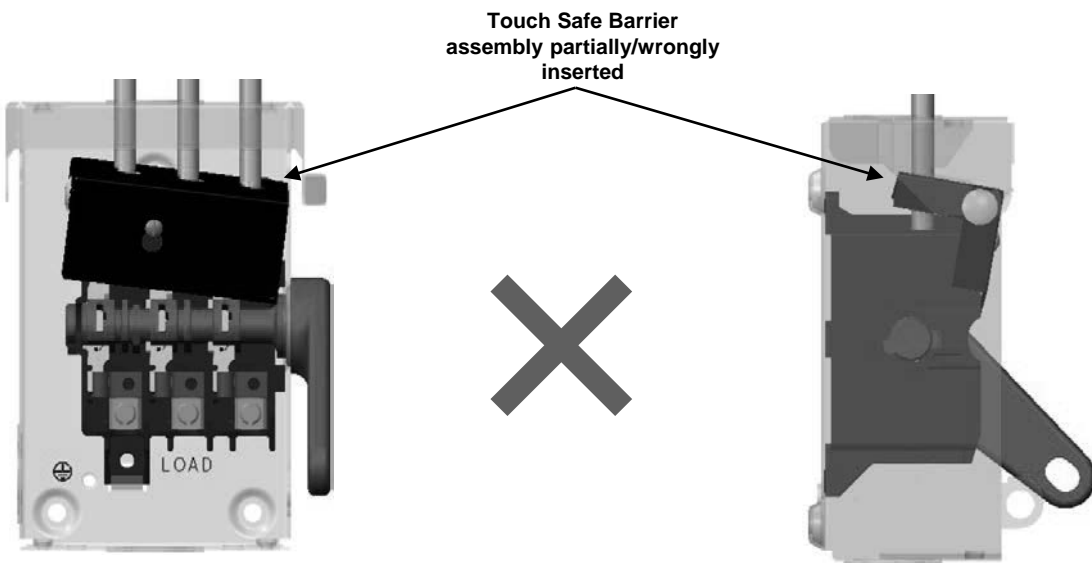

Fig. 4
5. The incorrect orientation of the closed barrier assembly. Fig. 4